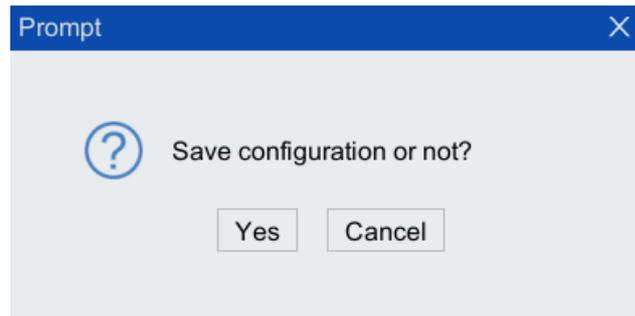

Figure 8-55 "Save Configuration" dialog box
Step2. Select "D_DCB" or "EtherCAT Slave CCB" as slave, click "Browse" button, select the save path, then click <OK> button to pop up "Save configuration or not?" dialog box in Figure 8-55 and click <Yes> button.